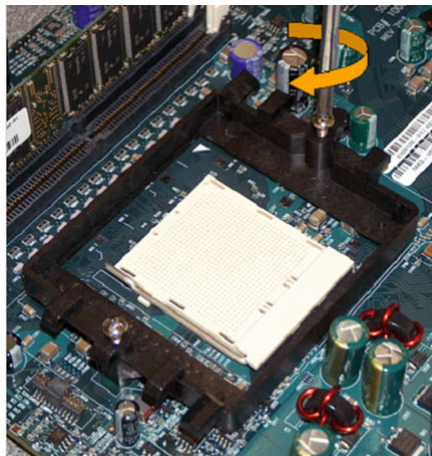

Figure 9. Tightening Down the Retention Frame
9. Place the screws and tighten down the retention frame. (See Figure 9 on page 16.)